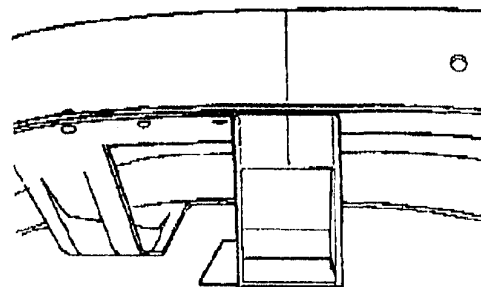

Figure 6
7. Next slip the crossmember up into the frame, center it on the scribed axle center line (Figure 6). If it does not fit, grind the sides of the crossmember until you can get the crossmember in place, as shown. Make sure the crossmember is seated fully on the underside of the actual frame lower surface and not the remaining flange of the old front crossmember section you trimmed out. Figure 6 shows this clearly. Tack weld in place, check location, then weld in place, welding all around both ends, top, sides, and bottom.